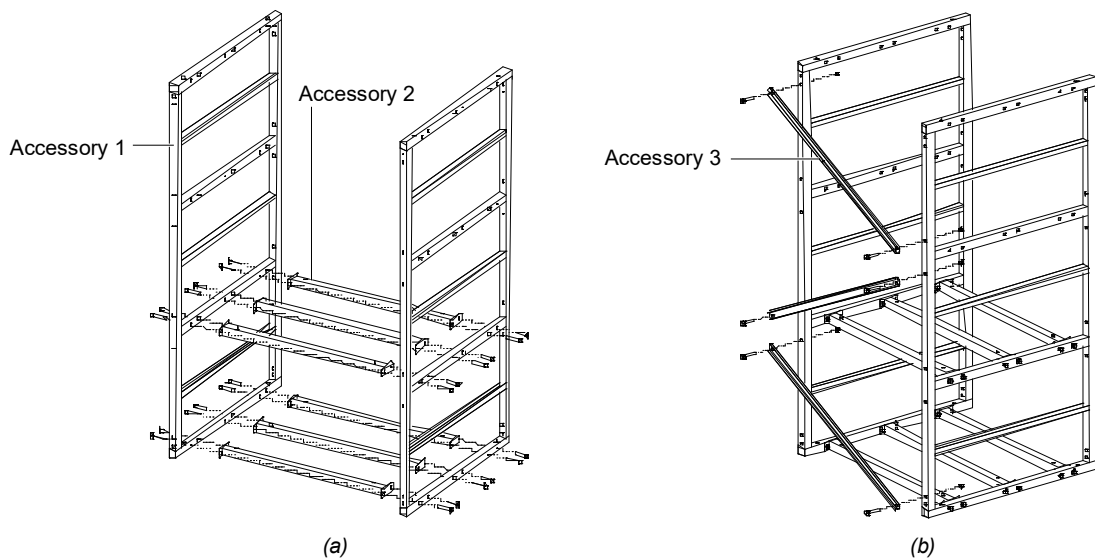

Figure 6 Installation procedure of accessory 1 ~ accessory 3
1. Install accessory 1 and accessory 2 according to Figure 6 (a).
2. Install accessory 3 according to Figure 6 (b).